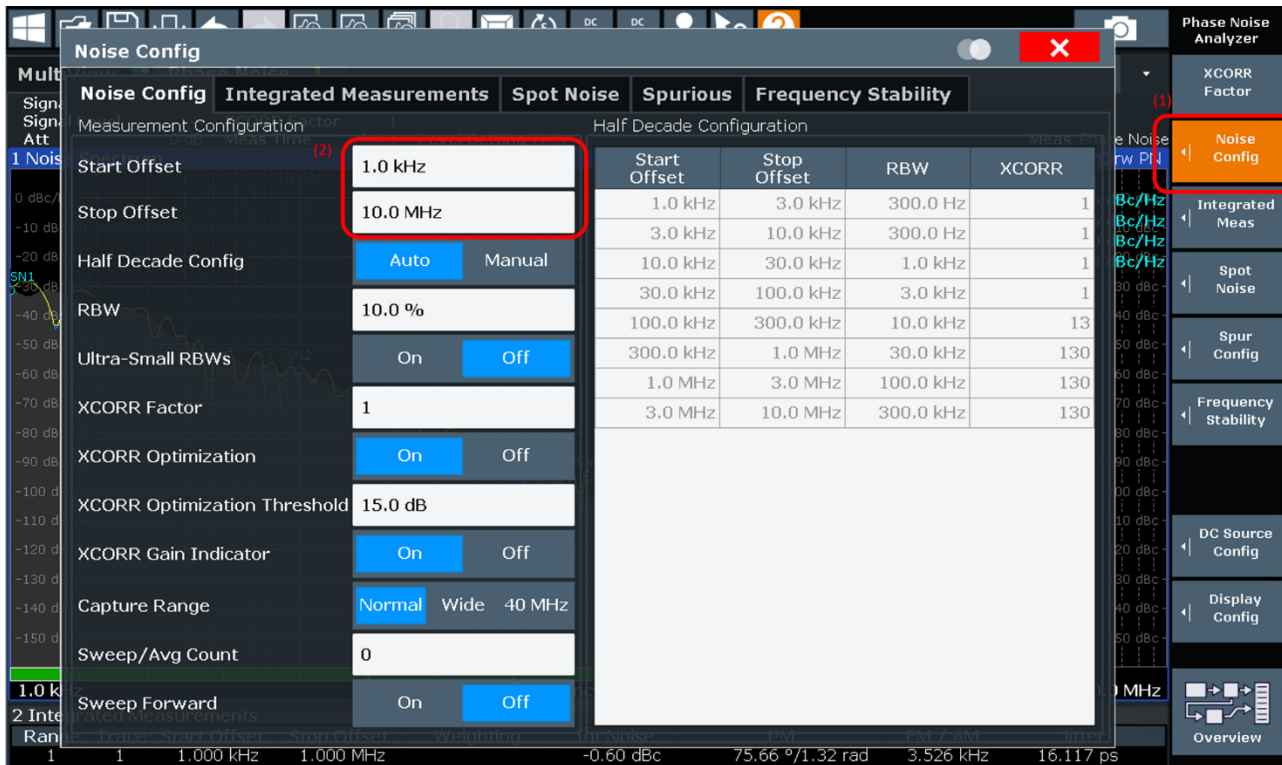

Figure 29: Phase noise measurement configuration
- (1) When using a VCO as DUT, set up the DC voltages similar to the setup performed in 4.2.1.
- (2) In order to configure the phase noise measurement, press the *Noise Config* softkey (Figure 29)
- (3) Enter the start and stop frequency for the phase noise offset range (Figure 29)